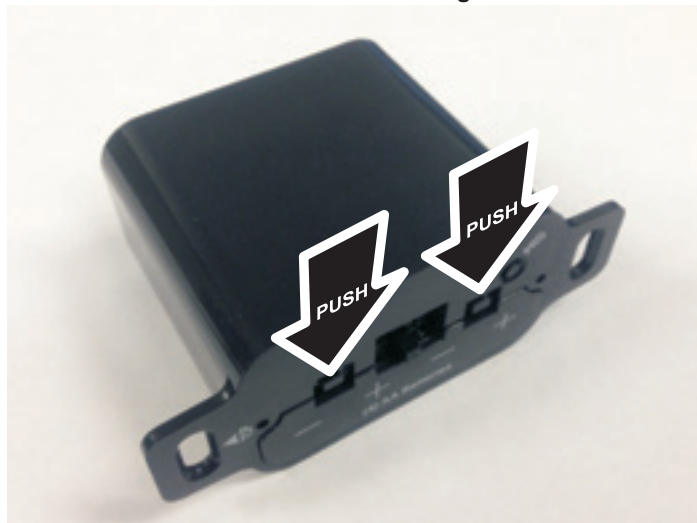
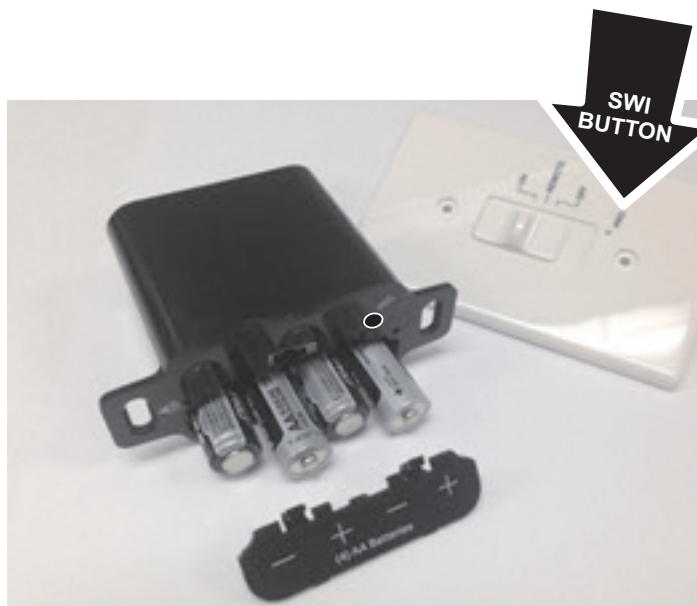

Figure 57
Figure 58
1. Remove the wall cover. Remove cover on the wall mounted battery back-up holder. **See Figure 57.** Install the four AA batteries into the wall mounted battery back-up holder then reinstall the cover. **See Figure 58.**
3. Set the wall remote slide switch to the "REMOTE" position. **See Figure 58.**
4. Press and release the SWI button on the wall control with a paper clip and the IFC module will beep three times to indicate the IFC module is ready to synchronize with the transmitter within ten seconds. **See Figure 58.**